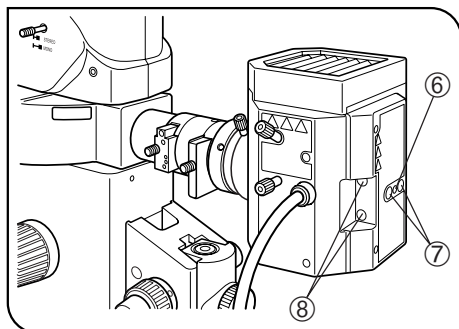

Fig. 48
5. Pull out the field iris diaphragm lever ② (to stop down the diaphragm).
6. Rotate the aperture iris diaphragm knob ③ toward the left (to open the diaphragm).
7. Set the shutter knob ① to "○" to open the shutter.
8. Rotate the collector lens focusing knob ④ to project the arc image on the white sheet. (A)
9. Rotate the burner centering knobs ⑤ to bring the arc image on the center of the left (or right) half of the field. (B)
10. Insert the Allen screwdriver into the mirror focusing screw hole (⑥ in Fig. 48) on the rear of the lamp housing, and turn the screw to focus on the mirror-reflected image. (C)
11. Rotate the burner centering knob ⑤ until the arc image and mirror-reflected image overlap.